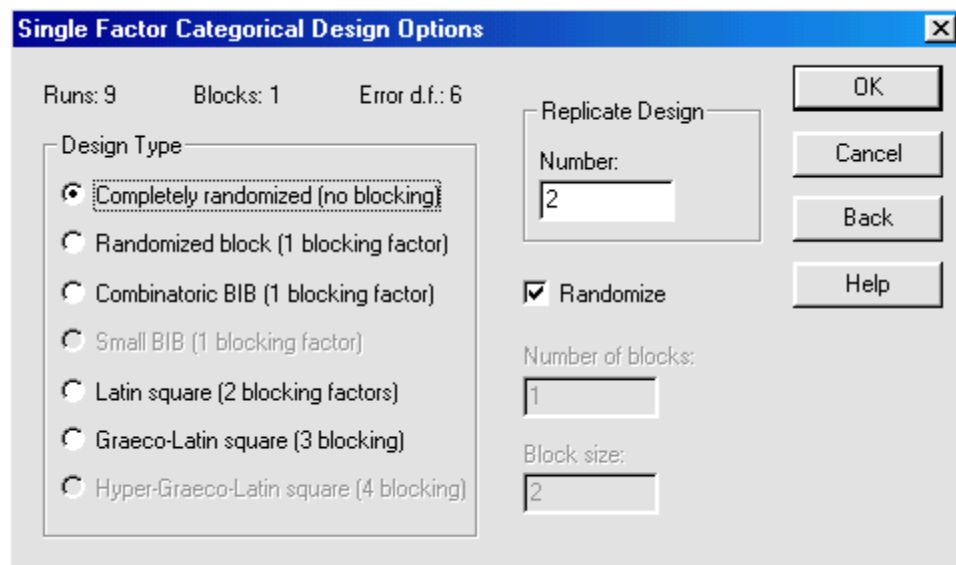

Figure 8-4. Single Factor Categorical Design Options Dialog Box
7. Click OK to display the Single Factor Categorical Design Options dialog box shown in Figure 8-4.
Use the *Single-Factor Categorical Design Options* dialog box to choose another design or to make changes to the current design. See Figure 8-4 for an example of this dialog box.